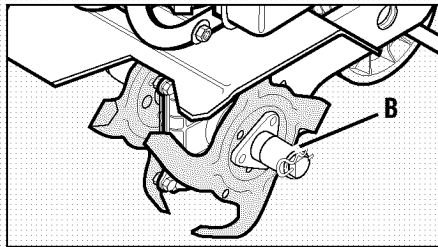

Figure 16: Narrow tilling tine positions.
4. Slide one of the long bushings (B, Figure 16), provided with the unit, onto the shaft. Insert the hitch pin through the tine shaft.
2. Remove the hitch pin (A, Figure 16) from both sides of the unit. Remove the old tine sections and replace them with new tine sections. Refer to Figure 16 and the tine pattern shown in the *Parts List* for tine pattern details. Insert the hitch pins through the tine shafts.